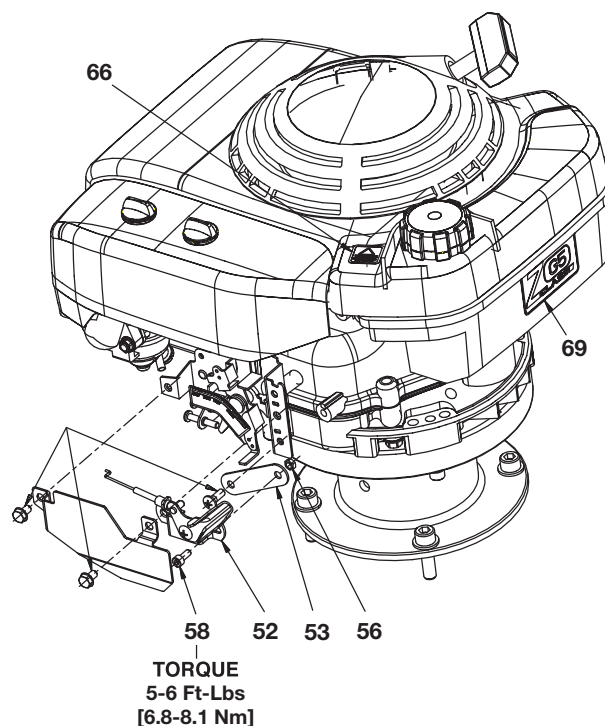

Figure 1, Honda Engine
Repair Parts List for Figure 1
■ Not available, replacement parts are available in Engine Honda 5.5HP ZG5 Replacement Kit DC8131259SR, full parts list in Figure 1 Parts List.